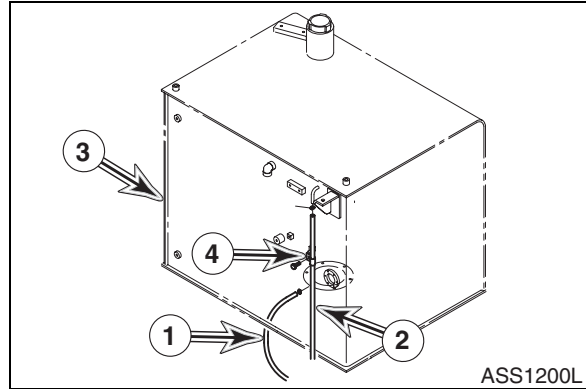

Figure 7
- Tag and disconnect fuel supply line (1, Figure 7) and fuel return line (2) from Fuel tank (3) and carefully drain remaining fuel from lines.
- Remove clamp (4, Figure 7) holding fuel return line (2) to tank (3).